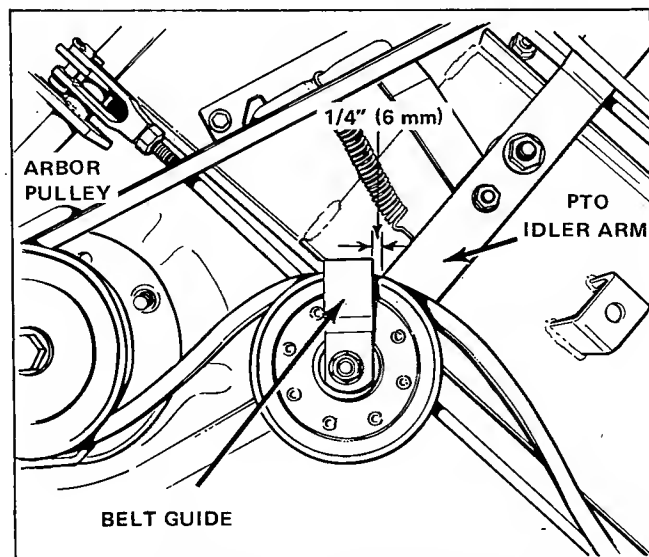

Figure 27. Mower Belt Replacement
2. Loosen the belt guide on the idler pulley on the PTO Idler Arm (See figure 27).
4. Install the new belt on the arbor pulleys and idler pulley, repositioning belt guide on idler pulley. Before tightening nut on idler pulley belt guide, position the belt guide so it is 1/4 inch (6 mm) behind the idler arm when viewed from above (see figure 27). Then hold the belt guide and tighten the nut.